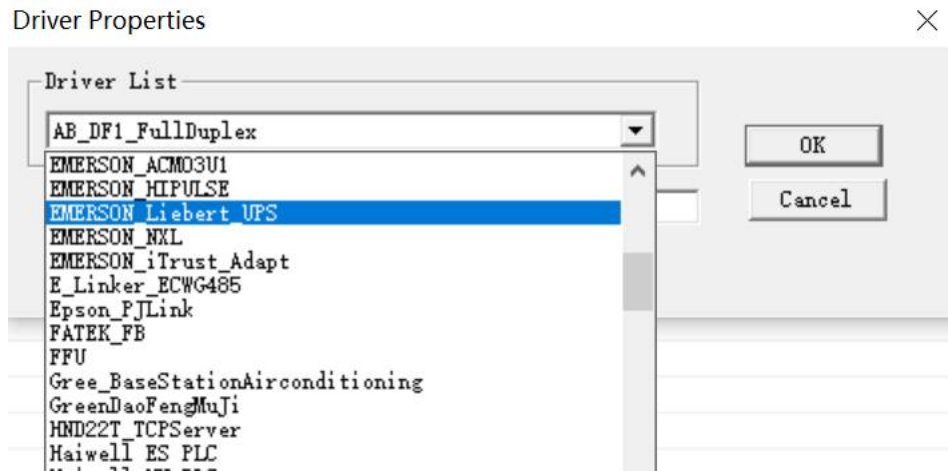

Figure 2-32-2 Selection Drive
- Select "EMERSON-LiebertUPS" in the pop-up window, as shown in Figure 2-32-2.